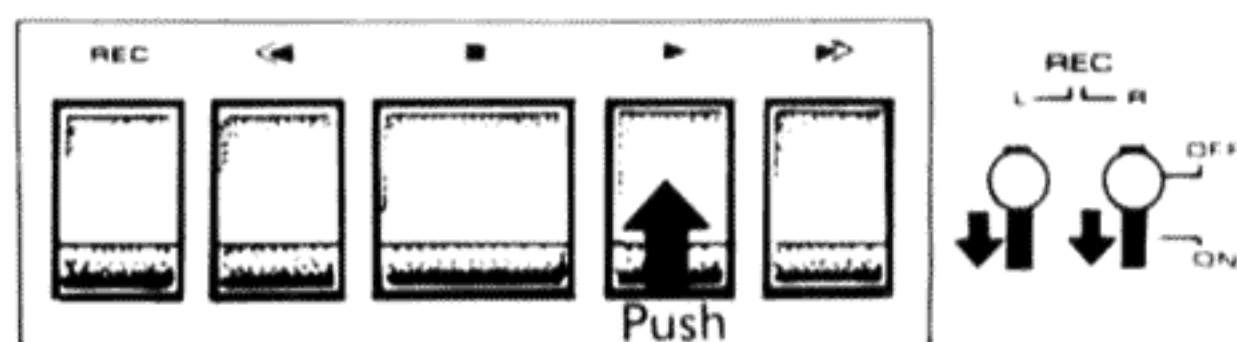

Fig. 38
1. Set the unit in playback mode by pushing the ► PLAY button. Set the REC switches at position ON(Fig.38) Listen to the tape as in usual playback.